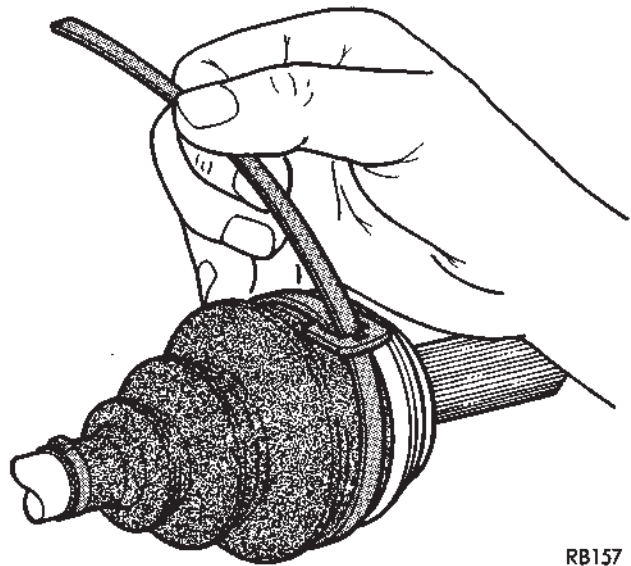

Fig. 4 Wrap Strap (through Buckle Eye) Twice
- (6) Put the strap around the boot with the eye of the buckle toward you (Fig. 4). Wrap the strip around the boot once and pass it through the buckle, then wrap it around a second time also passing it through the buckle.